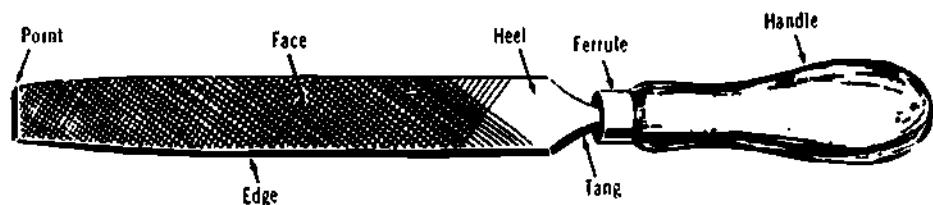

Figure 1-82. Components of a File
b) A file has five parts: the point; the edges; the face, or cutting teeth; the heel, or shoulder; and the tang. (See Figure 1-82.)